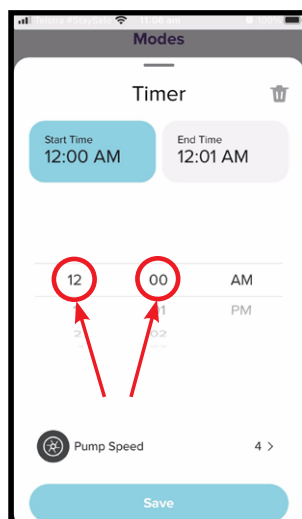

Figure 9.29
- Adjustments can be made to the scheduled start time by scrolling the hours &/or minutes up and down with your finger on the screen (refer Figure 9.29).